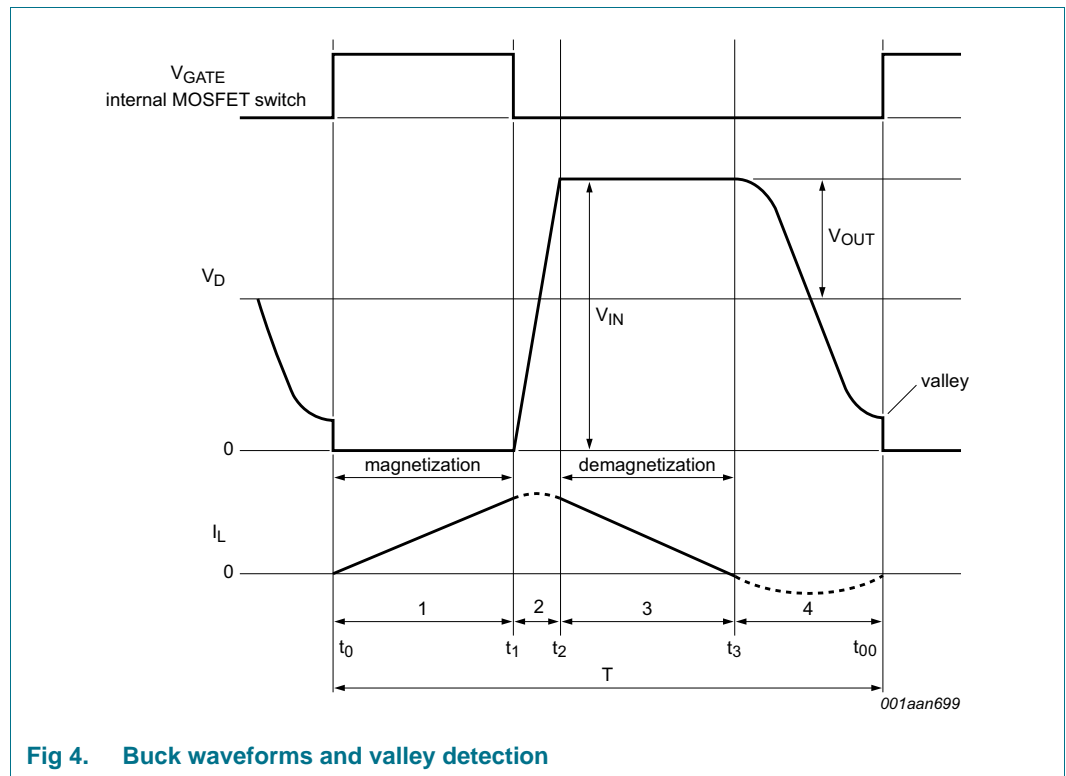

Fig 4. Buck waveforms and valley detection
A new cycle is started when the primary switch is switched on (see Figure 4). Following time t_1 , when the peak current is detected on the SOURCE pin, the switch is turned off and the secondary stroke starts (3). When the secondary stroke is complete and the coil current at t_3 equals zero, the drain voltage starts to oscillate around the $V_{IN} - V_{OUT}$ level. The amplitude equals V_{OUT} . A special feature, called valley detection is an integrated part of the SSL21081T circuitry. Dedicated built-in circuitry connected to the DRAIN pin, senses when the voltage on the drain of the switch has reached its lowest value. The next cycle is then started and as a result the capacitive switching losses are reduced.